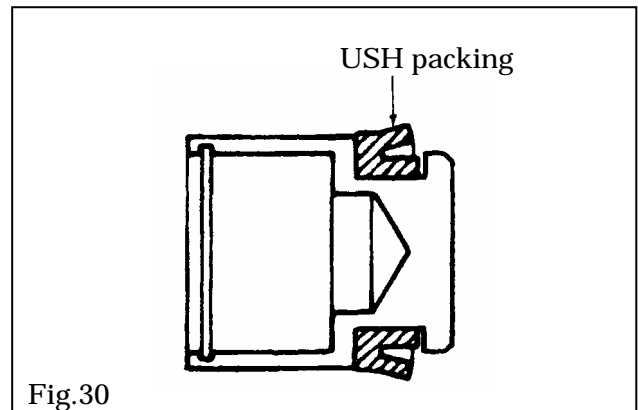

Fig.30
2. Install USH packing to piston. (See Fig.30.)